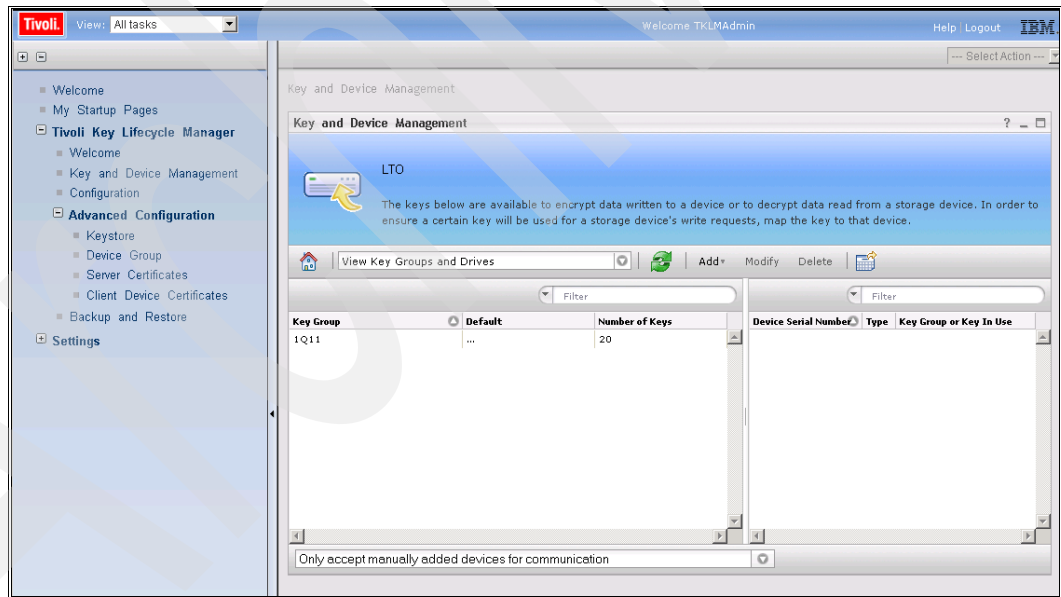

Figure 9-44 Successful key group creation
- If the new key group was created successfully, it will be included on the **Key and Device Management** panel (Figure 9-44).